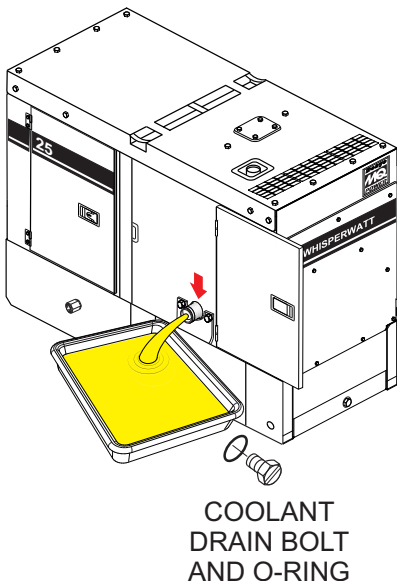

Figure 72. Draining The Engine Coolant
2. Open the cabinet door and remove the **coolant drain bolt and O-ring** (Figure 72), then allow the coolant to drain into a suitable container.